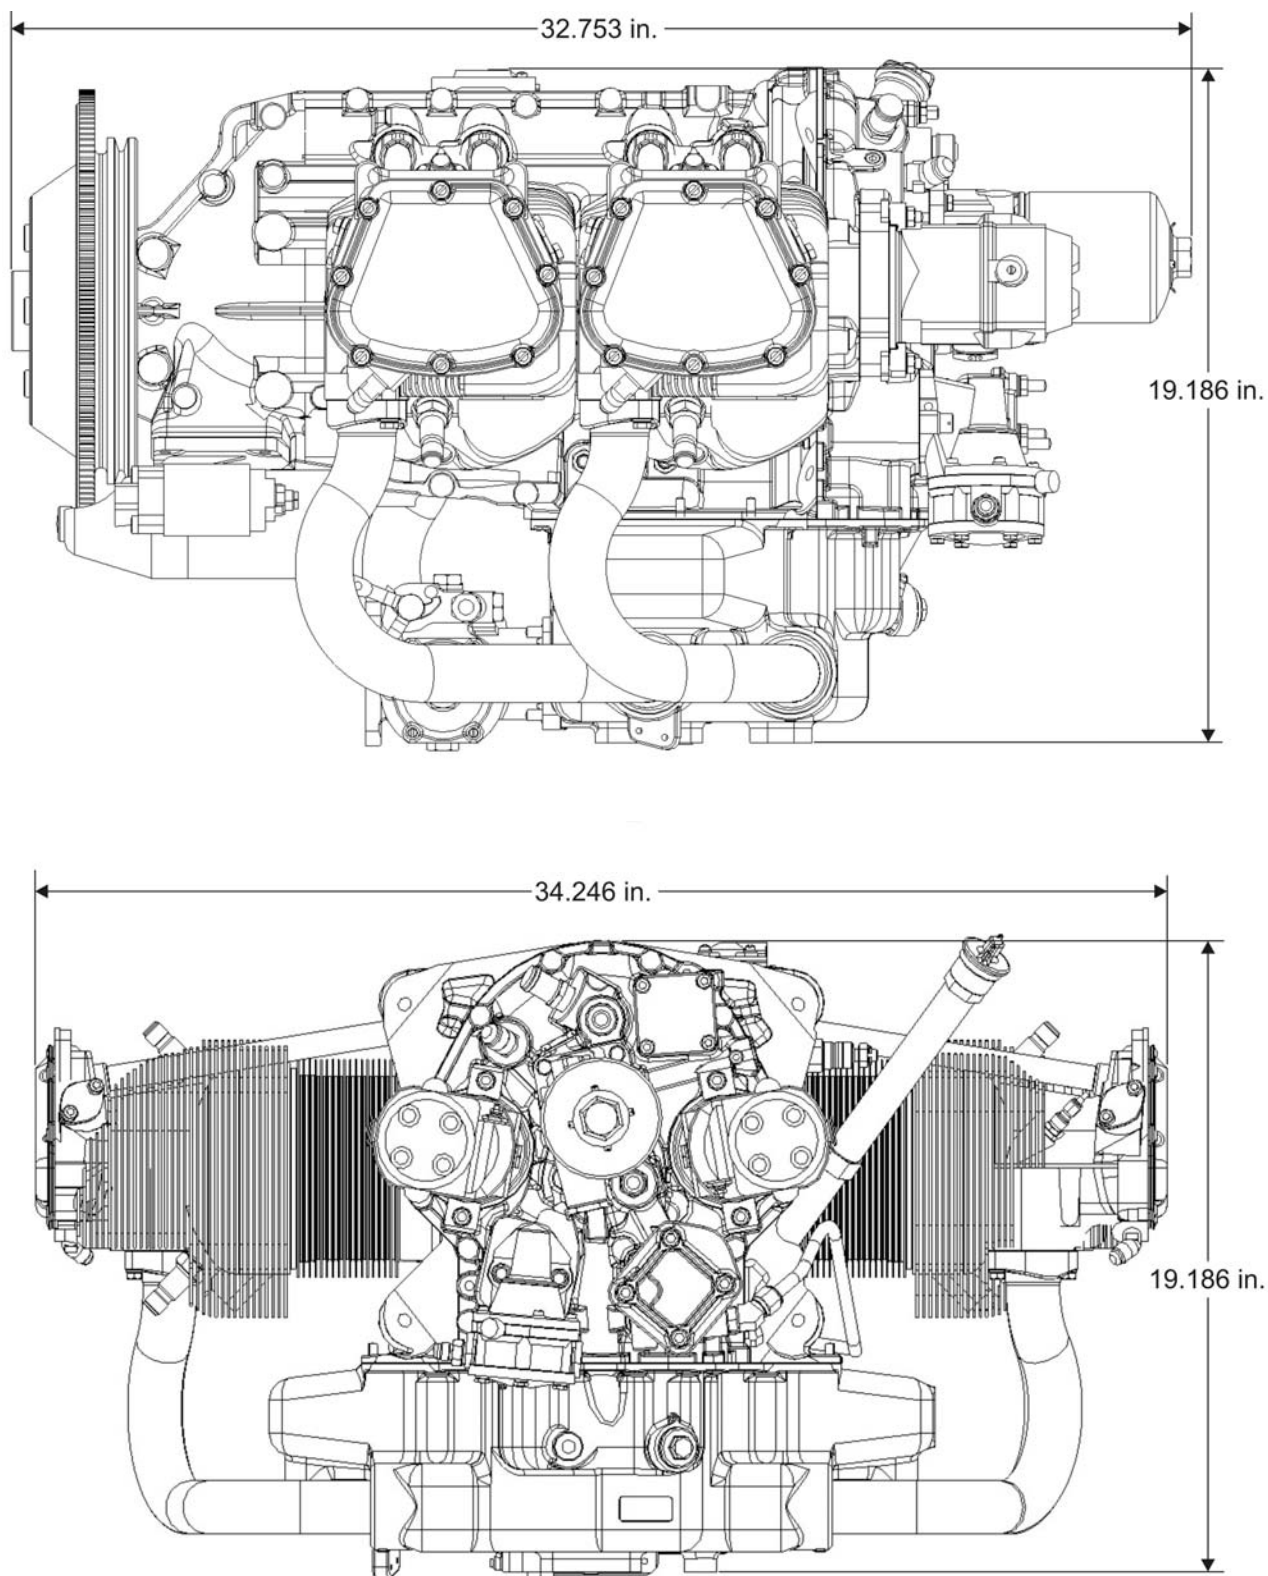

Figure 2-1. Dimensions
- a. Refer to Figures 2-1 through 2-3 for dimensions and connection locations.